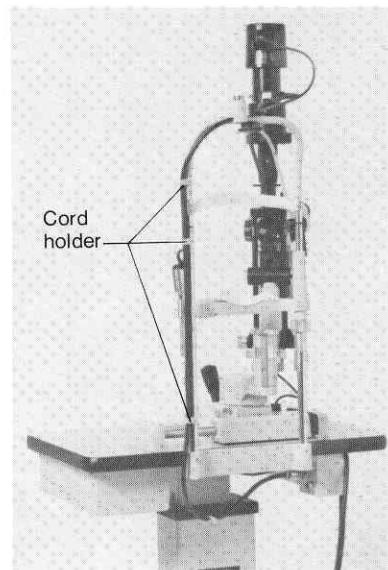

Fig. 68
Fix it by those two screws as shown Fig. 68.
- (b) Fix the cord at three points by the cord holder of the pole of chin rest and the screws of the pole. (See Fig. 68)